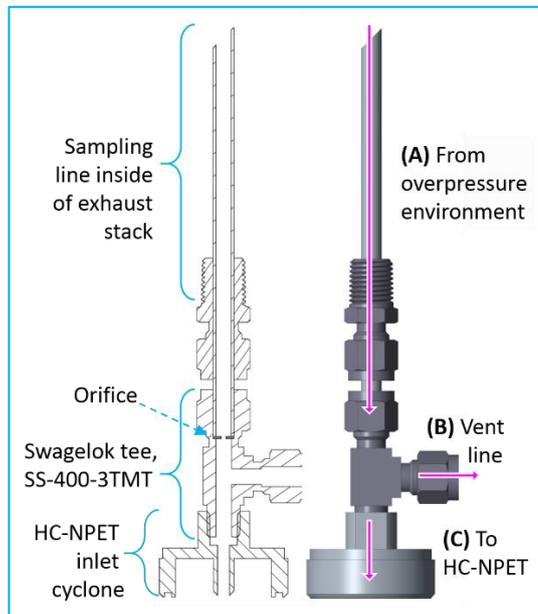

Figure 2: Sampling design to allow the HC-NPET to sample safely from an overpressure environment.
- The straight-through leg of the tee will have 1/8" NPT threading; this will go to the NPET; see Figure 2. Instructions on how to attach the NPET are covered in a later section, "How do I Collect and Analyze my Data?"
- The 90 degree leg of the tee will have ¼" Swagelok® threading, and will serve as the vent; see Figure 2. Instructions on how to plumb the vent are covered in steps 3–4.
2. **Choose the right orifice** for your application. An orifice is necessary to control the excess flow out of the tee, and should be installed in the overpressure leg of your sampling tee (in Figure 2, A). When choosing an orifice it is important to know the maximum overpressure you expect to encounter, and the temperature of the overpressure environment. Table 1 provides guidance on how to select an orifice. For further guidance in this regard, contact TSI.
3. **Plumb the excess (vent) line.** Starting at the 90 degree leg of the tee (in Figure 2, B), plumb the following components in order. Components may be omitted at your discretion.
Table 1: Orifice selection guidance. Use the expected minimum pressure of your overpressure environment, as well as temperature, to select an orifice. A smaller orifice reduce the excess venting of exhaust gas, but requires a higher minimum exhaust gas pressure to maintain the NPET sampling flow. Refer to Figure 2.
- Upstream: the straight-through leg of the sampling tee (in Figure 2, C) can screw directly into the 1/8" NPT female thread in the HC-NPET's inlet cyclone using Teflon® tape. The inlet cyclone is located between the flexible hose and the sampling probe. To access the inlet cyclone, simply unscrew the sampling probe.